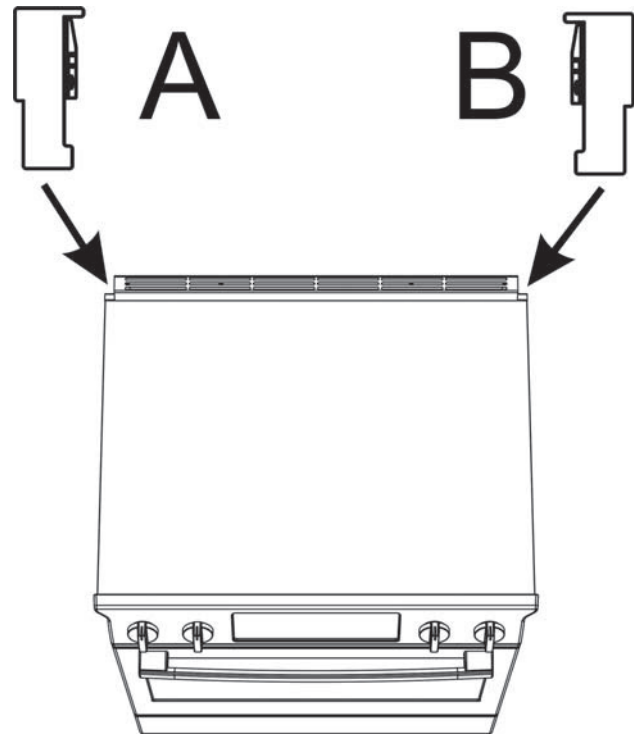

Figure 1: Identify right and left corner covers, top view of range
If the range is already installed, can the range slide out enough to give access to the side screws of the rear trim? See Figure 1: Identify right and left corner covers, top view of range and Figure 2: Rear trim side screw location, right rear side of range.
2. Identify which corner cover piece is to be attached to the left (A) and right (B) rear of the range. See Figure 1.